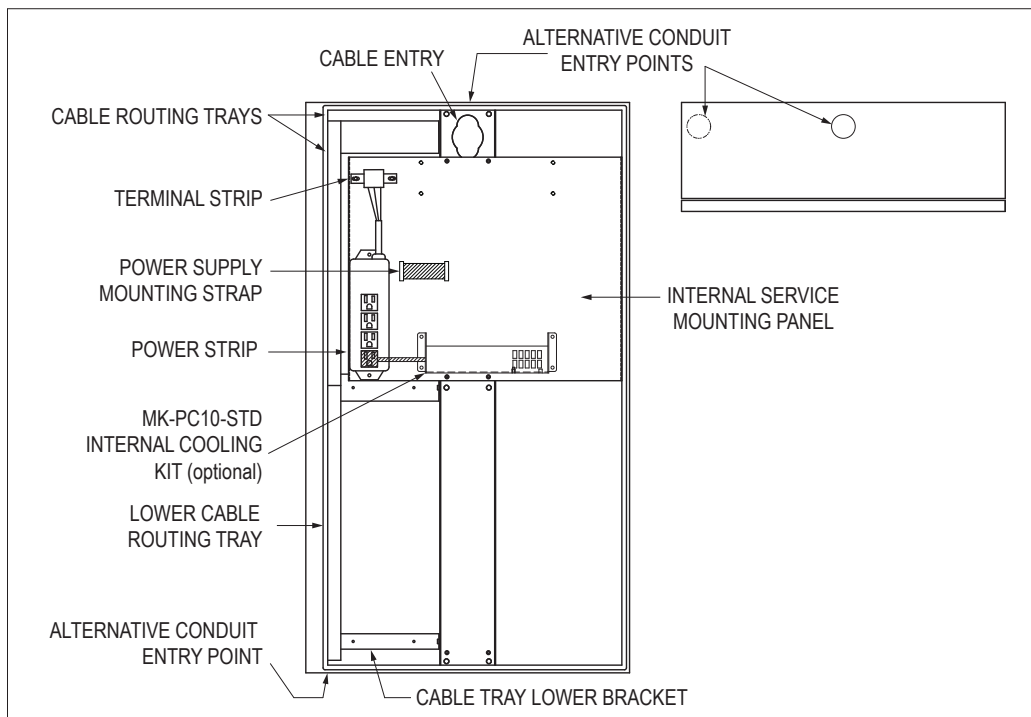

FIGURE 1 – INSIDE AND TOP VIEWS OF ENCLOSURE
1. Refer to Figure 1. A wiring entry hole is provided at the top center of the enclosure for use when pedestal or wall mounting the enclosure. If cables will not be going through the rear hole already provided, punch conduit holes as required.
NOTE: If punching conduit holes in the enclosure, place the hole(s) so that wires can be routed through the trays provided. See Figure 1 for alternative conduit entry points on the enclosure top, bottom, and rear walls. If necessary, remove cable routing covers and trays before drilling to avoid damage and to allow room for conduit installation. In wet environments, ensure that conduit entry points are adequately sealed.
- b. When using the optional Dell Optiplex XE2 mounting kit (part number MK-PC10-DELLXE2): Refer to Figures 1 and 5.
4. Refer to Figure 1. Install any additional equipment on the internal service panel. The panel can be removed for drilling as required.
NOTE: If you ordered the optional MK-PC10-STD internal cooling kit, install it on the service panel now, as shown in Figure 1. This cooling kit may be low-mounted, as shown in Figure 1, or high-mounted on the top mounting pattern on the service panel. Hook up power to the internal cooling kit by plugging the kit's AC cable into an outlet on the power strip. For non-North American power strips, connect power using the alternative cable that shipped with your internal cooling kit. Connect the cable to the kit, then connect the pigtail end to the AC input terminal blocks.
5. Refer to Figure 1. Remove cable routing tray covers and route the power cable to the power strip terminal block on the internal service panel. Route all signal cables (video, keyboard/mouse, serial, network, etc.) and AC power cables as required. For good internal air flow, all cables should be routed neatly through the trays.